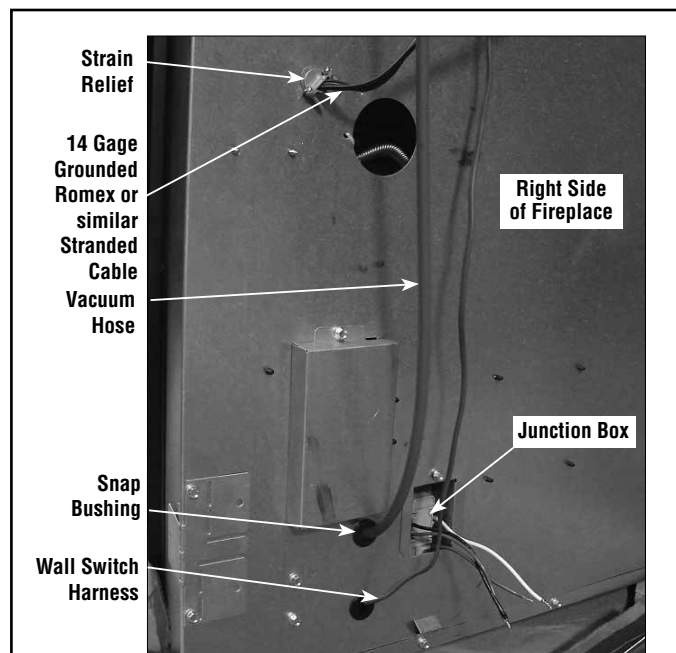

Figure 20 - Routing Wiring
- Install the strain relief in the hole provided on the right side of fireplace for the electrical wiring (see *Figure 20*).